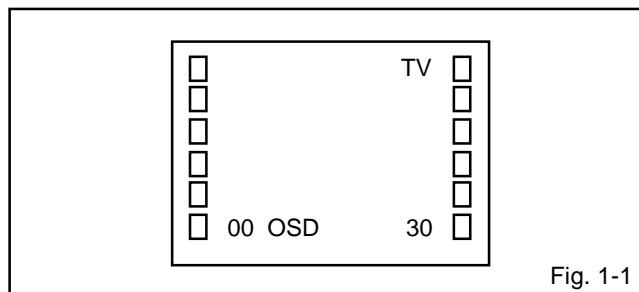

Fig. 1-1
1. In the condition of NO indication on the screen. Press the VOL. DOWN button on the set and the Channel button (9) on the remote control for more than 2 second to appear the adjustment mode on the screen as shown in Fig. 1-1.
3. Activate the adjustment mode display of Fig. 1-1 and press the channel button (01) on the remote control to select "CUT OFF".
4. Activate the adjustment mode display of Fig. 1-1 and press the channel button (12) on the remote control to select "R. BIAS".
10. If the picture is too much green. Activate the adjustment mode display of Fig. 1-1 and press the channel button (28) on the remote control to select "CB PED".
12. If the picture is too much red. Activate the adjustment mode display of Fig. 1-1 and press the channel button (29) on the remote control to select "CR PED".